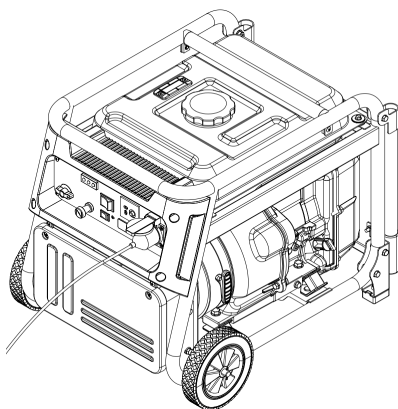

Figure 11 Equipment connects to generator
2. Make sure that the switches of connected equipment are turned off, then insert the equipment plugs into the socket. See figure 11.